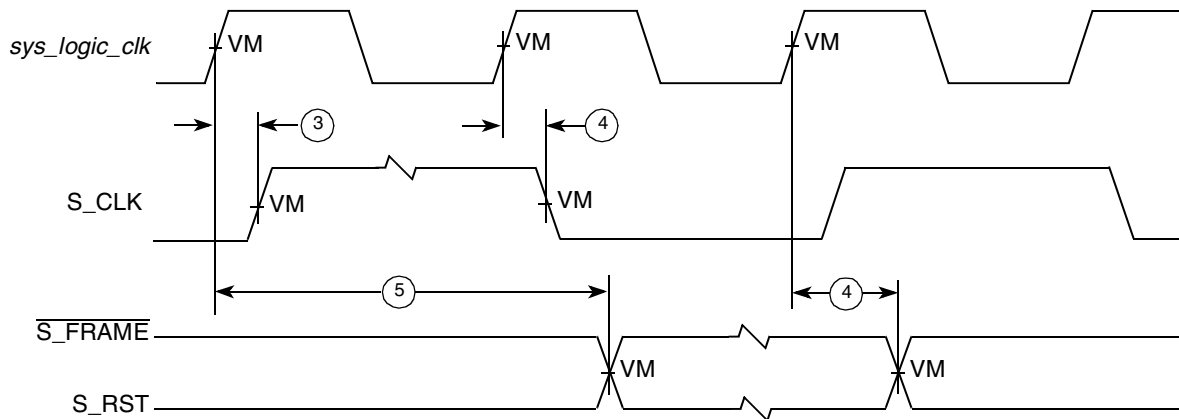
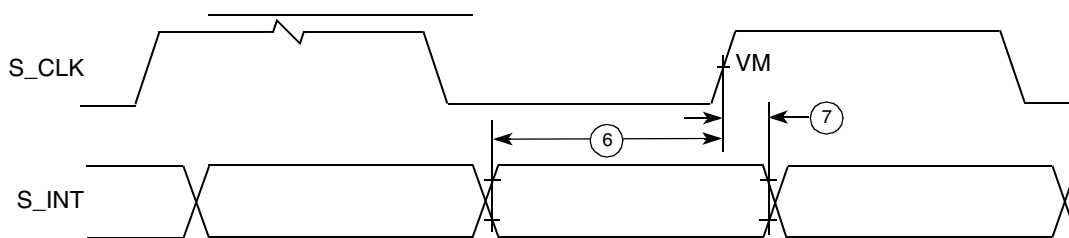

Figure 18. PIC Serial Interrupt Mode Output Timing Diagram
Figure 19. PIC Serial Interrupt Mode Input Timing Diagram
- S_RST, $\overline{\text{S_FRAME}}$, and S_INT shown in Figure 18 and Figure 19, depict timing relationships to sys_logic_clk and S_CLK and do not describe functional relationships between S_RST, $\overline{\text{S_FRAME}}$, and S_INT. The *MPC8245 Integrated Processor Reference Manual* describes the functional relationships between these signals.